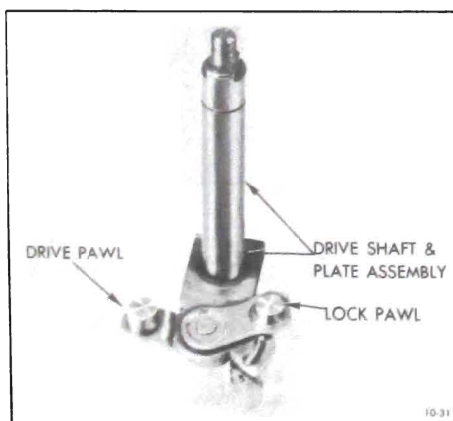

Figure 10-48 Assembling Lock Pawl over Drive Pawl
2. Assemble lock pawl over drive pawl. See Figure 10-48.